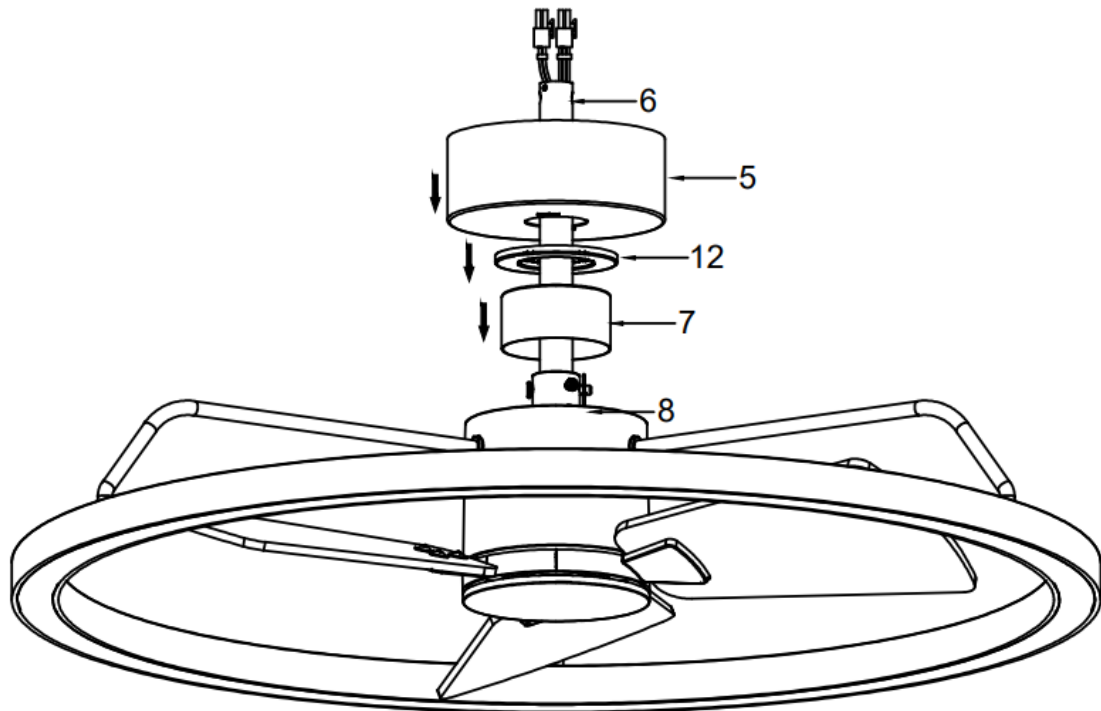
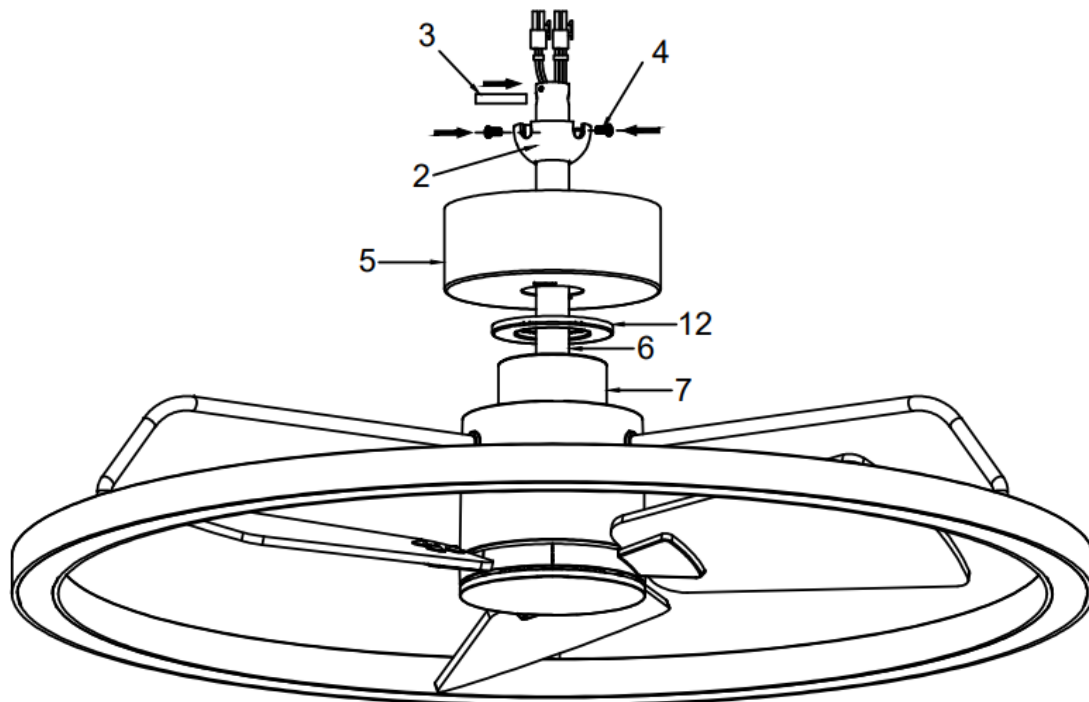

Fig. 4.5
Fig. 4.6
6. Insert the Bolt and pin cover (7) onto the down rod (6) to cover the down rod coupling housing (8). (Fig. 4.5)
7. Insert the canopy (5) & canopy cover (12) over the down rod (6) and install the ball joint (2) and dowel pin (3) back onto the down rod (6) and secure by tightening the set screws (4). (Fig. 4.5 and Fig. 4.6)